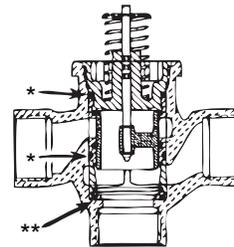

Fig. 3.
6. Clean the valve surfaces marked \* and \*\* in Fig. 3 to ensure the new cartridge O-rings seal at these points. Use care to avoid damage to these surfaces. (\*\* for 3-way valves only).